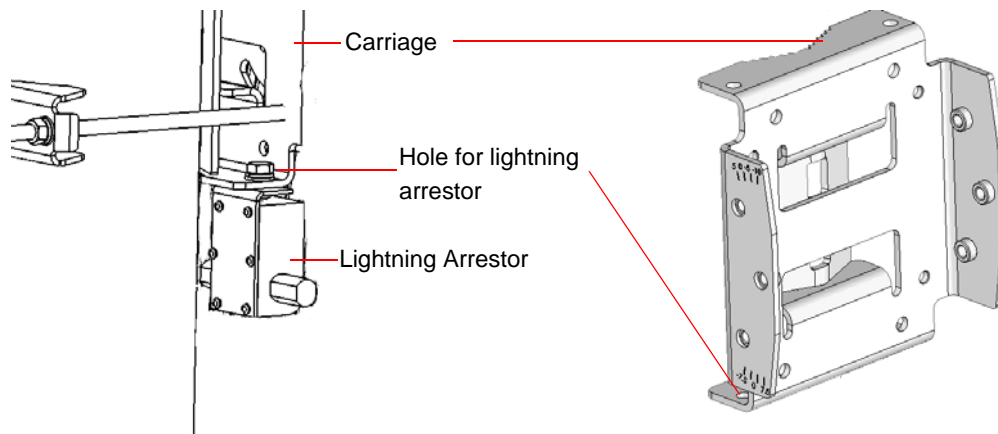

Figure 2-7: Installing the Lightning Arrester on the Carriage
- 1 Install the lightning arrestor (part of the GPS Kit, see “GPS Installation” on page 49) at the designated location at the bottom of the carriage (see Figure 2-7).